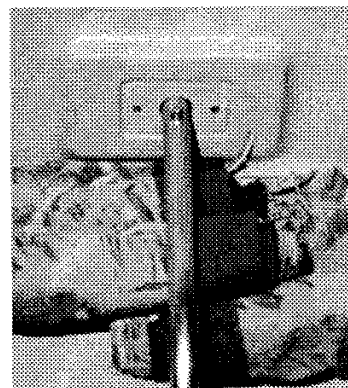

Fig. 5
9. Enter unit and insert bed bow support pole at bow peg. Push bow outward and upward pressing on the farthest button from the end and slip into bracket mounted on roof. Fig. 5
5. Remove bow braces from bracket on the roof and pull brace to center of coach. Remove from peg on bed bow. Place braces under bed mattress. Fig. 5